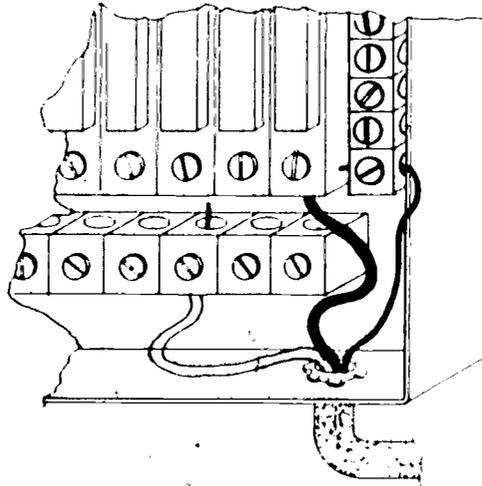

FIGURE 3
- L. Connect ungrounded conductor to appropriate overcurrent device (Figure 3)